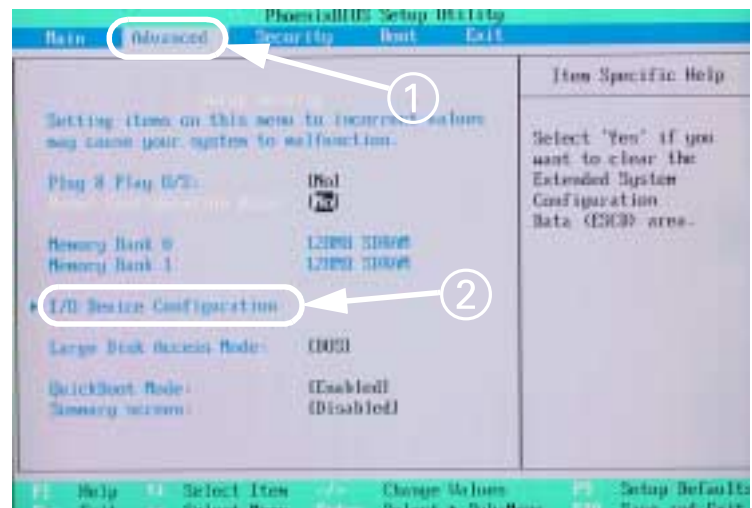

Figure 19-4 Advanced settings
12. Select "Advanced" tab (① in Figure 19-4), using left/right arrow keys.
13. Verify correct "Advanced" settings as shown in Figure 19-4.
14. Select I/O Configuration (② in Figure 19-4) using up/down arrow keys, and then press *<Enter>* key.